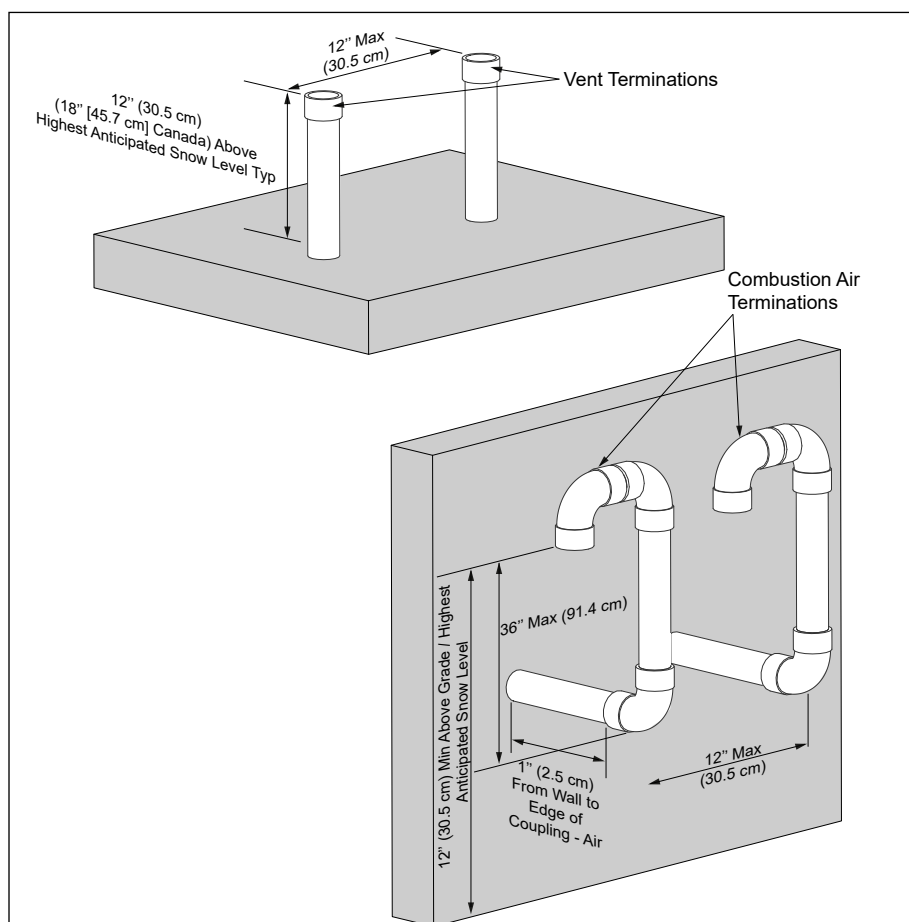

Fig. 13 - Direct Vent - Vertical Vent and Sidewall Combustion Air Terminations of Multiple EXALT Boilers
2. Each vent and combustion air termination must be a minimum 12" [30.5 cm] from the adjacent termination for installations in the U.S. as shown in *Fig. 13 below*. For installations in Canada, provide clearances as required by CAN/CSA B149.1.